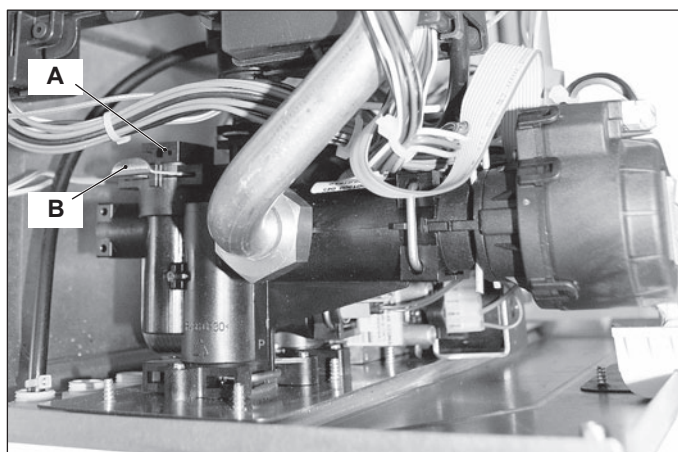

Figure 16.2
- 3 Remove the locking plate B and pull up the by-pass valve A (Figure 16.2).
- 4 Reassemble the by-pass valve as illustrated in Figure 16.2 reversing the order of removal.